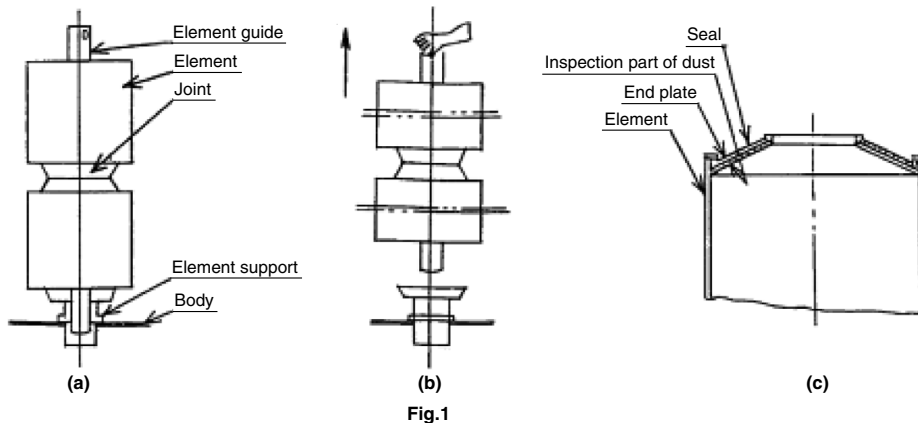

Fig.1
- 4-3. After taking out the element holder, the element and joint can be taken out together if the element guide is taken out in such a manner as mentioned in (Fig.1).
- 5-1. As for the elements except the honeycomb and paper elements, check if there is no dust between the end plate and seal when taking them out. If there is any dust, clean it off. (See Fig. 1 (c).)